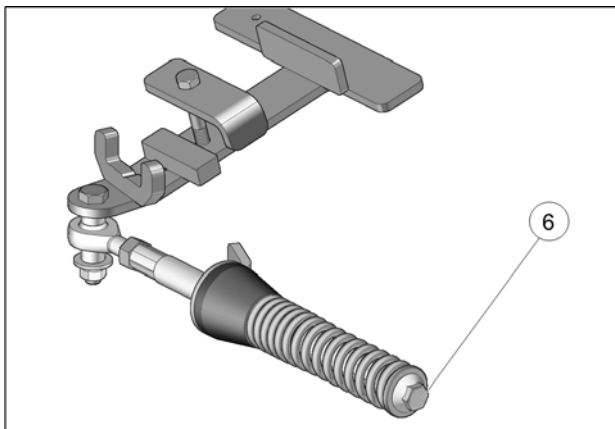

Fig. 17
- Verify that spring assembly bolt (6) is tightened to the recommended torque specification: 75 N•m [55 lb•ft]. Refer to Fig. 17